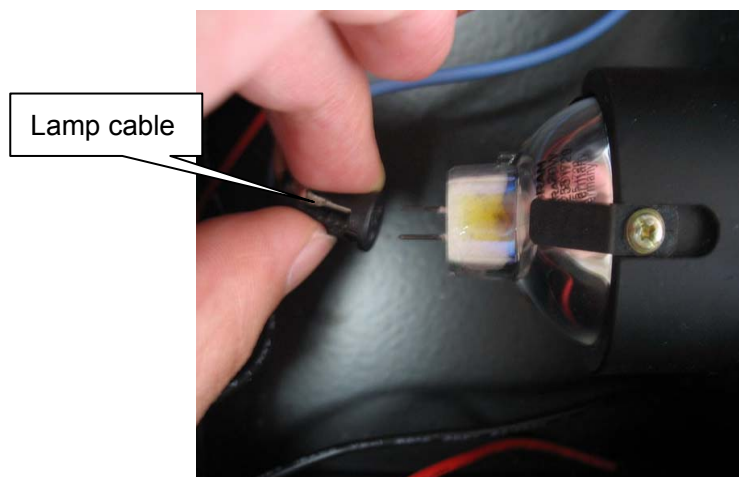

Figure 3-41
- 2、Take off the lamp cable to prevent the lamp from broken by misoperation, as shown in figure 3-41.